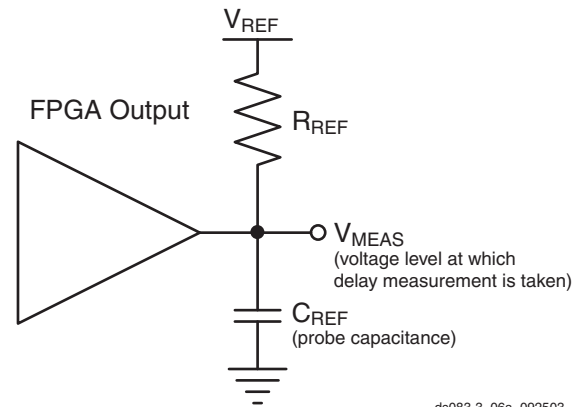

Figure 1: Generalized Test Setup
- Note that this is an input voltage reference that bears no relation to the V_{REF} / V_{MEAS} parameters found in IBIS models and/or noted in Figure 1, page 17.
Output delays are measured using a Tektronix P6245 TDS500/600 probe (< 1 pF) across approximately 4" of FR4 microstrip trace. Standard termination was used for all testing. (See *Virtex-II Pro Platform FPGA User Guide* for details.) The propagation delay of the 4" trace is characterized separately and subtracted from the final measurement, and is therefore not included in the generalized test setup shown in Figure 1.